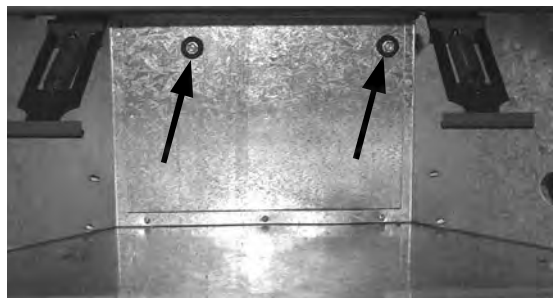

Figure 42. Grommets for Hanging Fan.
2. Remove the fascia, glass door and, two (2) screws holding the control panel in place. Disconnect the sparker and rocker switch wires, and remove the panel.
3. Install the two (2) grommets by placing an 8-32 x 3/4" bolt through each grommet then screwing the bolt to the back cover using a 1/4" socket (see Figure 42)
4. Ensure the wiring harness is attached to the fan then hook the two (2) slots on the fan box over the grommets installed in the last step.